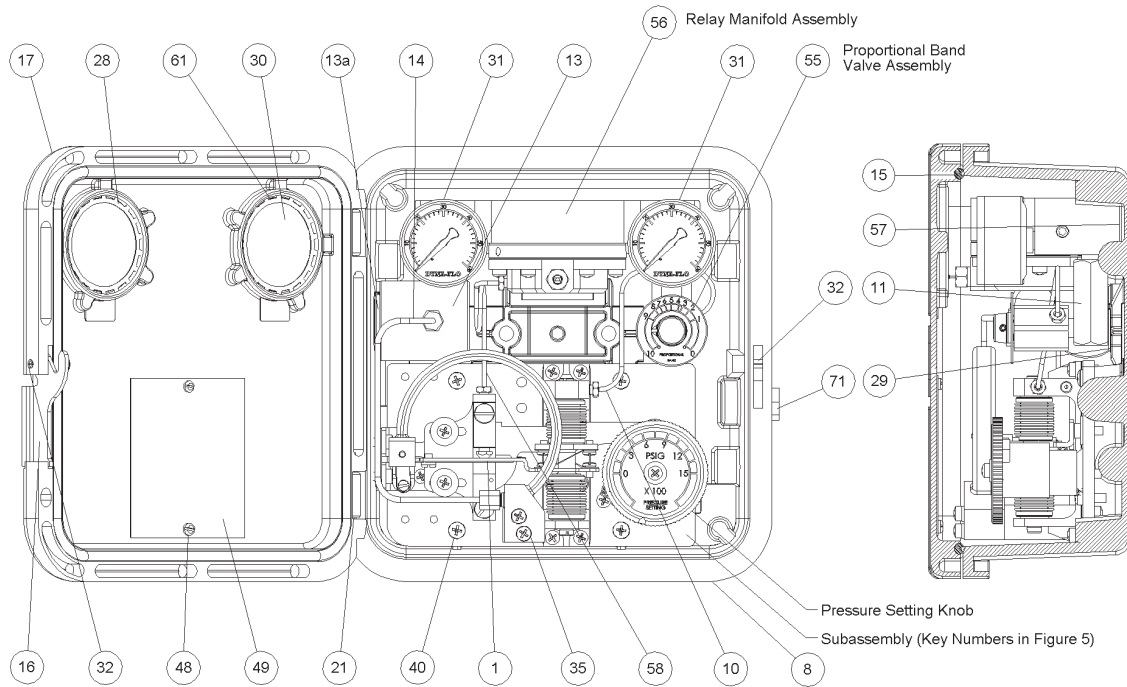

Figure 4 Dyna-Flo Model 4000 General Detail
- E** Disconnect the tubing (Figure 4, Key 14) from the CONTROL pressure block (Figure 4, Key 13) to the bourdon tube (Key 7), at the CONTROL pressure block end.
- F** Remove the 4 machine screws (Key 40, Figure 4), and lift the controller subassembly from the case.
- S** Replace the subassembly in the case and secure with the machine screws (Key 40, Figure 4).
- U** Unscrew tyhe supply and output gauges (Key 31, Figure 4) and install new gauges with correct ranges.
Whenever corresponding with Dyna-Flo about a 4000 series pressure controller, refer to the nameplate (Key 48, Figure 4) for the serial number of the unit. Please order by the complete part number (as given in the following parts list) of each part required.